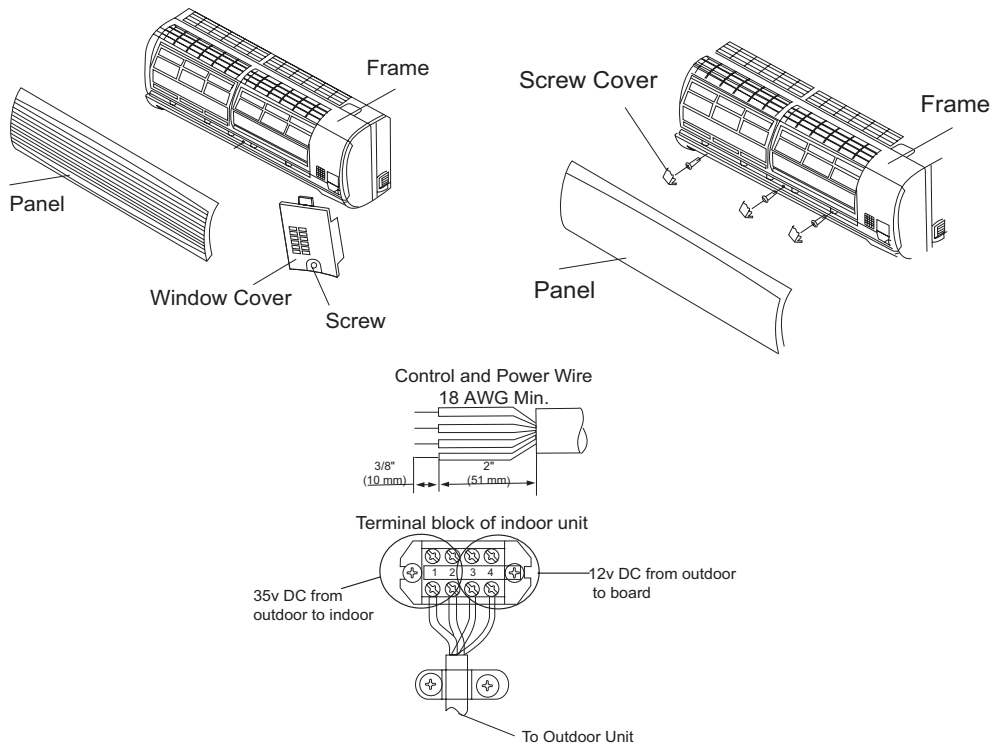

Fig. 11 – Control and Power Wiring – model size 9k – 12k
2. Put upper claw at back of indoor unit on upper hook of Mounting Plate, move indoor unit from side to side to see that it is securely hooked. See Fig. 11.